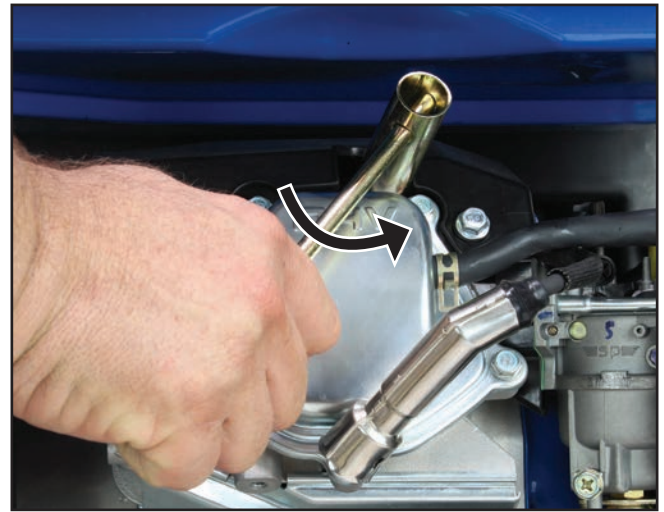

Figure 48 – Removing Spark Plug
5. Use a spark plug socket wrench to remove the spark plug from the cylinder head by unscrewing it anti-clockwise (see *Figure 48*).